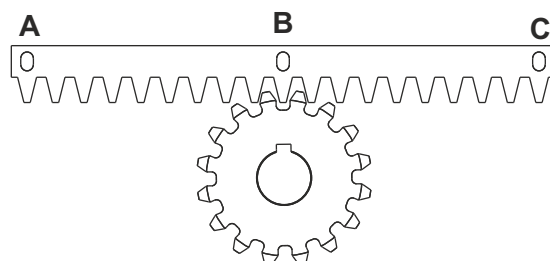
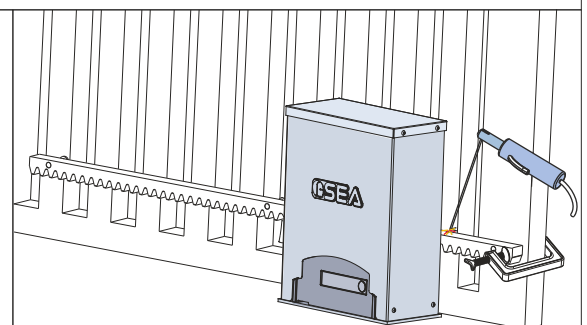

Fig. 9
Fig. 10
5.3. Lean the gear rack element on the toothed pinion of the operator in parallel to the ground slideway of the gate, as shown in Fig. 9 and electrically weld the central pawl **B** to the gate structure - Fig. 10.